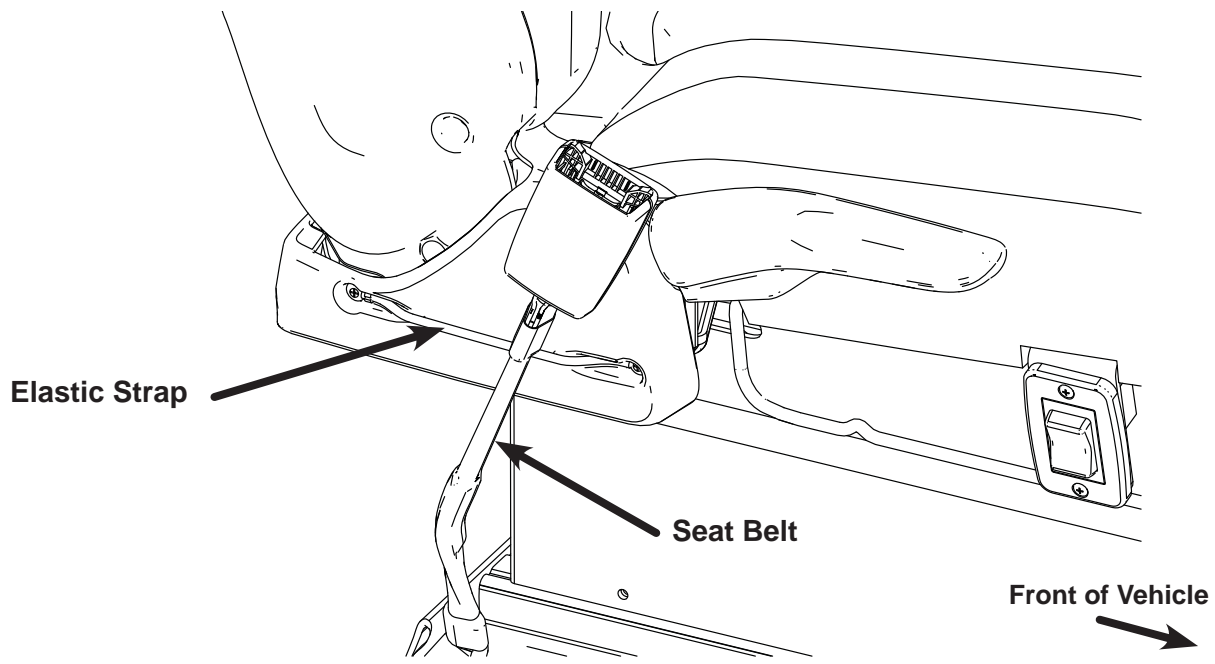

Fig. 6
8. Move seat to full forward position. Free buckle from elastic strap on inboard side by sliding out of strap See Fig. 6
40. Reinsert buckle into elastic strap on inboard side of seat asm See Fig. 6